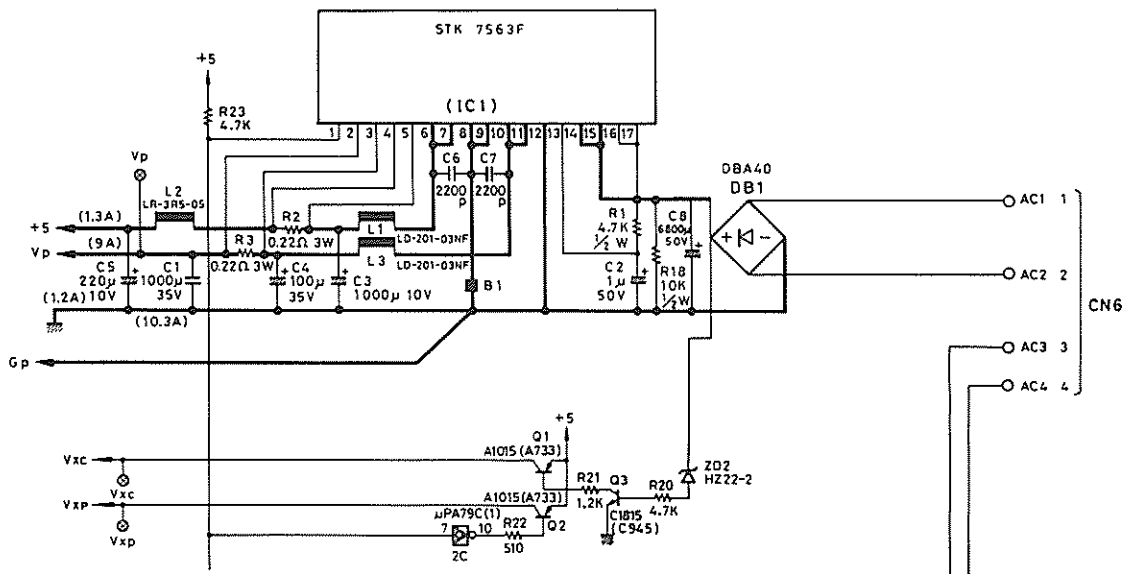

Fig. 2-18. +24V/+5V Regulator Circuit
2.6.1.3 Regulator Circuit (Fig. 2-18)